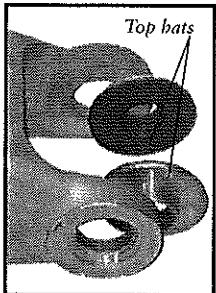

Fig. 32
2. Remove the "top hat" bearings (Fig. 32) from the main frame and swingarm. These are also installed with Loctite, so again tap them out with a hammer and an 11mm socket. Avoid damage to the frame or swingarm by properly supporting and padding each as you drive out the bearings.
The Q-Pro Carbon frame and Aeros fork use a proprietary system. At this time, only the supplied parts are compatible with this system. No other frame, fork, or lower headset system can be substituted for parts in this system as supplied. The upper bearing uses a standard 1 1/8" Aheadset system (Fig. 32), from which many substitutions are available as aftermarket parts.